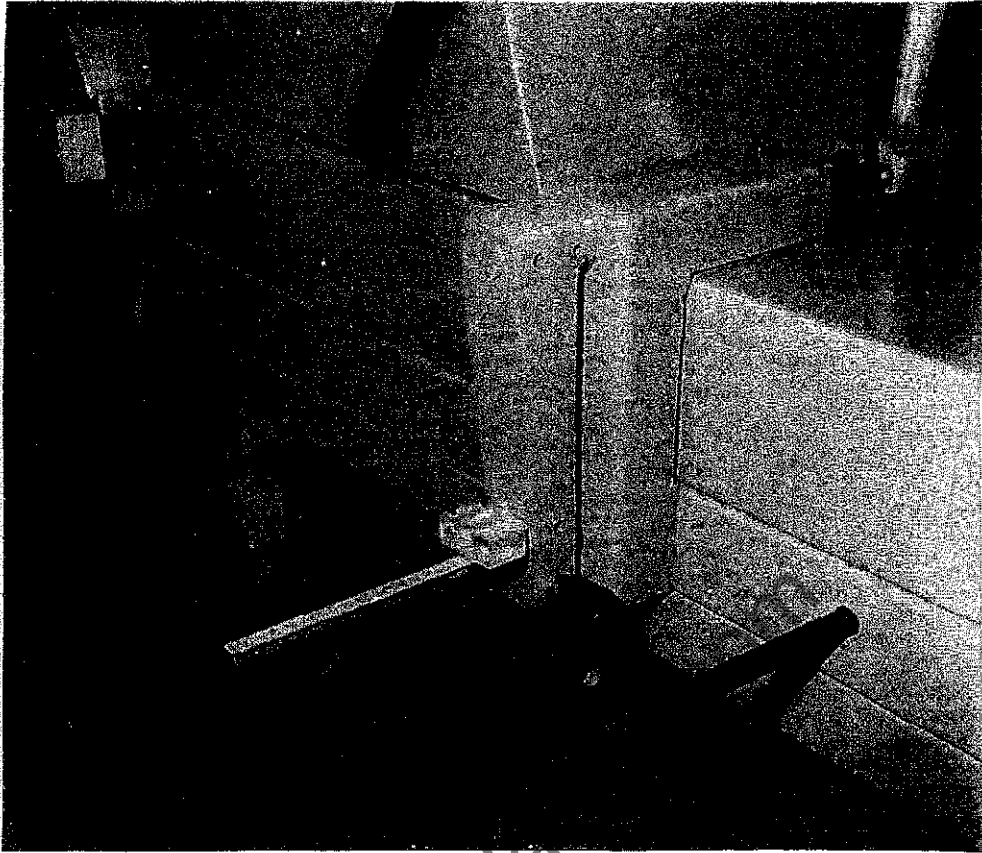
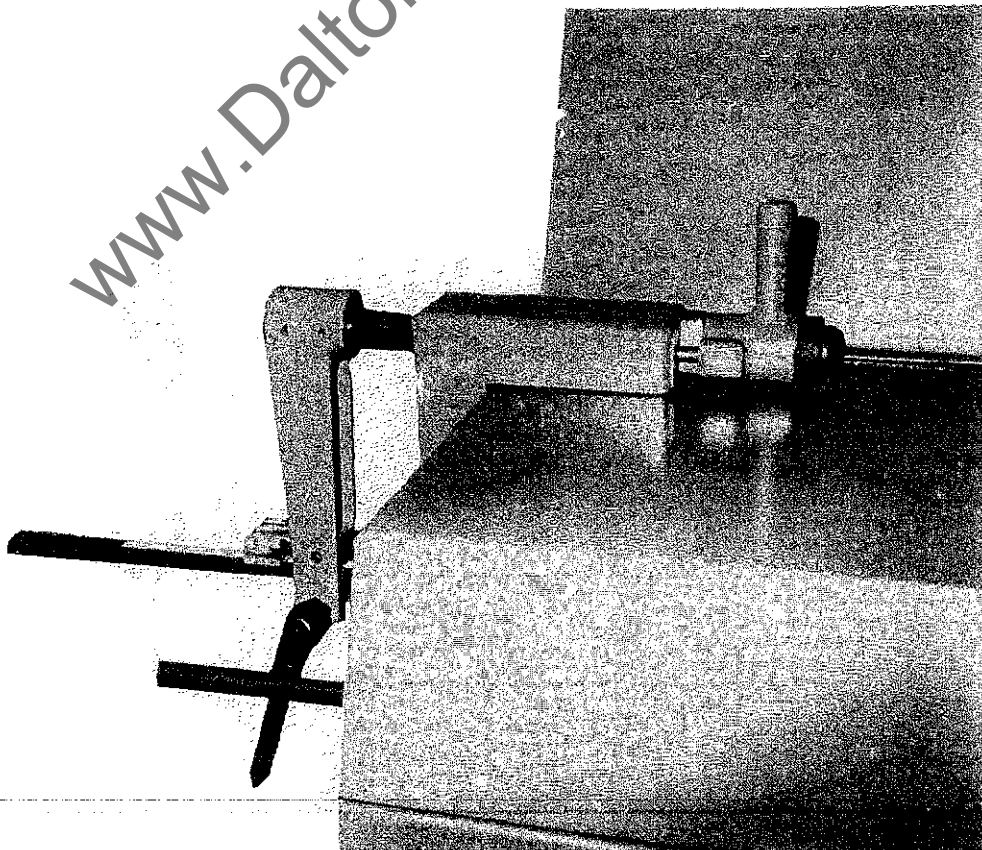

FIG. 10
FIG. 11
A front end stop 'R' FIG.10 is provided to position material in relationship to the tenon heads to produce the correct length of tenon.
**Note:** Front end stop 'R' FIG.10 should be positioned as FIG.11 when using turnover shoulder stop.